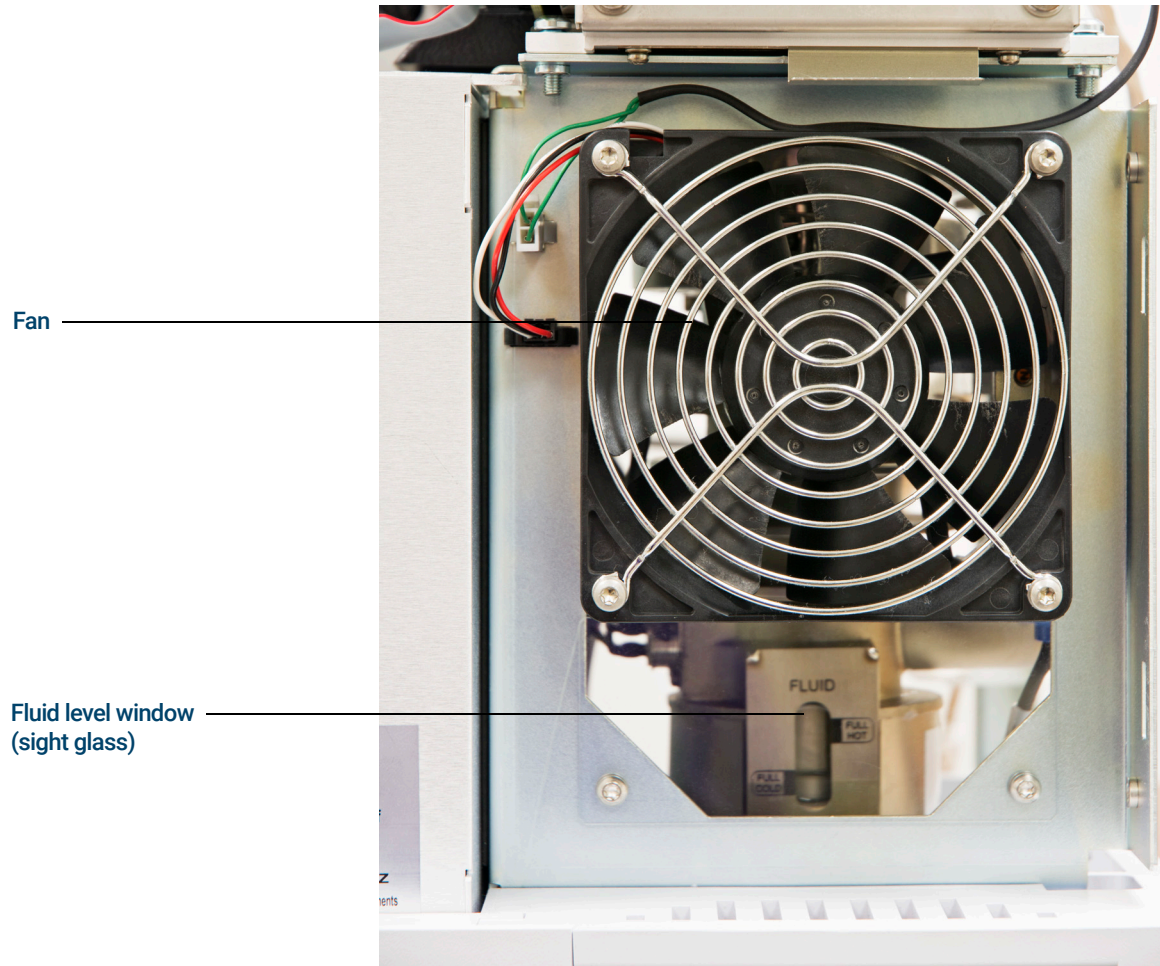

Figure 12. DP
- 4 Check the DP fluid level. (See **Figure 12** on page 110.)